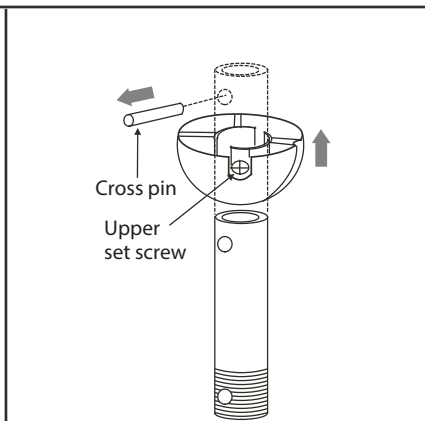

Fig. 2
2. Remove the downrod ball that was supplied with your ceiling fan by loosening the set screw. Slide the downrod ball off the downrod. Be sure to keep the crosspin supplied with your fans downrod to use with the slope ceiling adaptor ball. (Fig. 2)